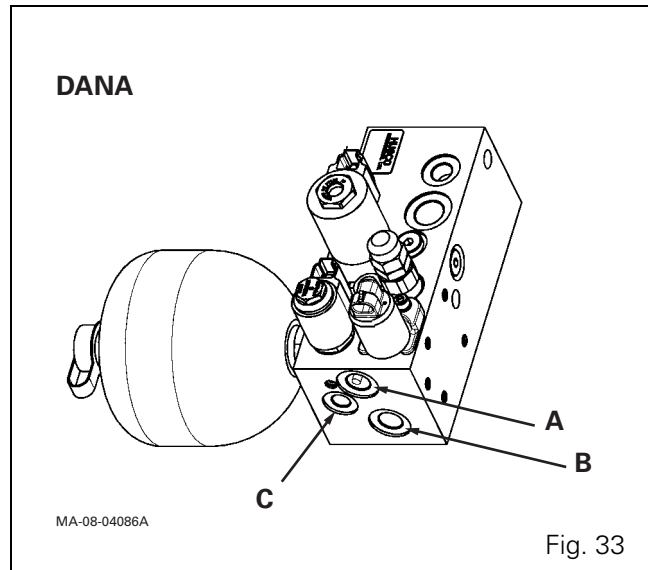
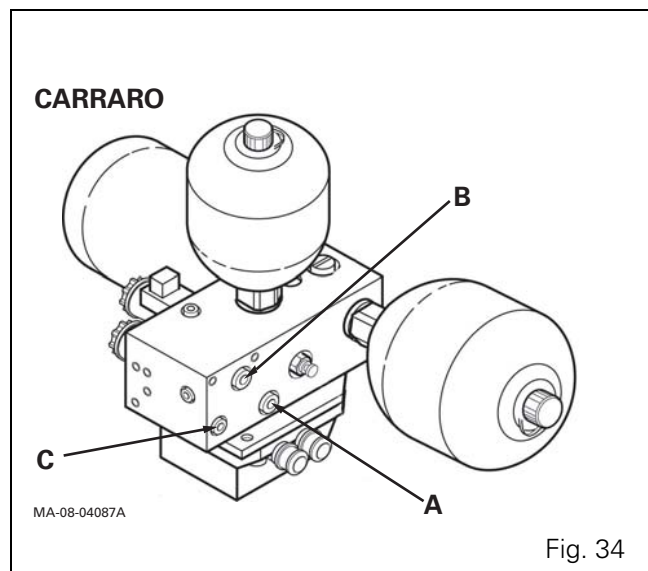

Fig. 33
Fig. 34
Legend (Fig. 33, Fig. 34)
2. Disconnect hydraulic fittings A and C (Fig. 33 or Fig. 34).